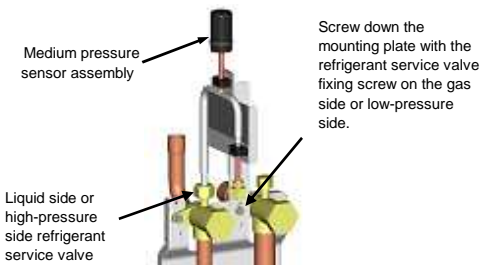

Figure 1
(1) Turn off the power of the unit, and remove the top panel, bottom panel, and control box cover.
(2) Remove the lid of the service port on the service valve (liquid side for Y series or high-pressure side for R2 series), and install the medium pressure sensor assembly as shown in Figure 1 (to the tightening torque of 20±2N·m).